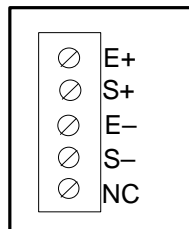

Figure 2-2: Connection assignments for the Load Cell Terminal
1. Connect your shielded load cell cable (not included) to terminal LC on the piggyback board. Connection assignments for the Load Cell Terminal are shown in Figure 2-2.